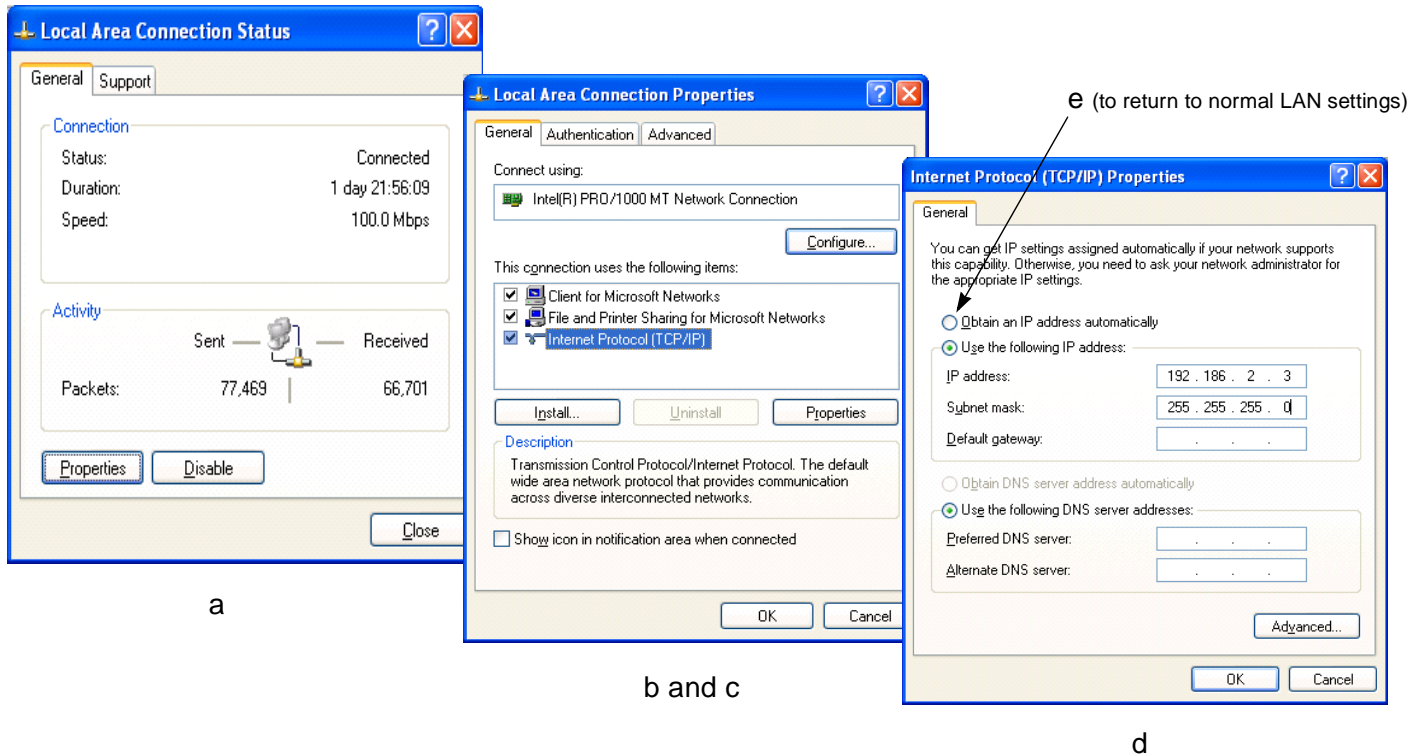

Figure 2. Setting the PC's IP Address
2. **PC's IP Address:** Setting the PC's IP address using Windows XP (similar in other Windows platforms; see Figure 2):